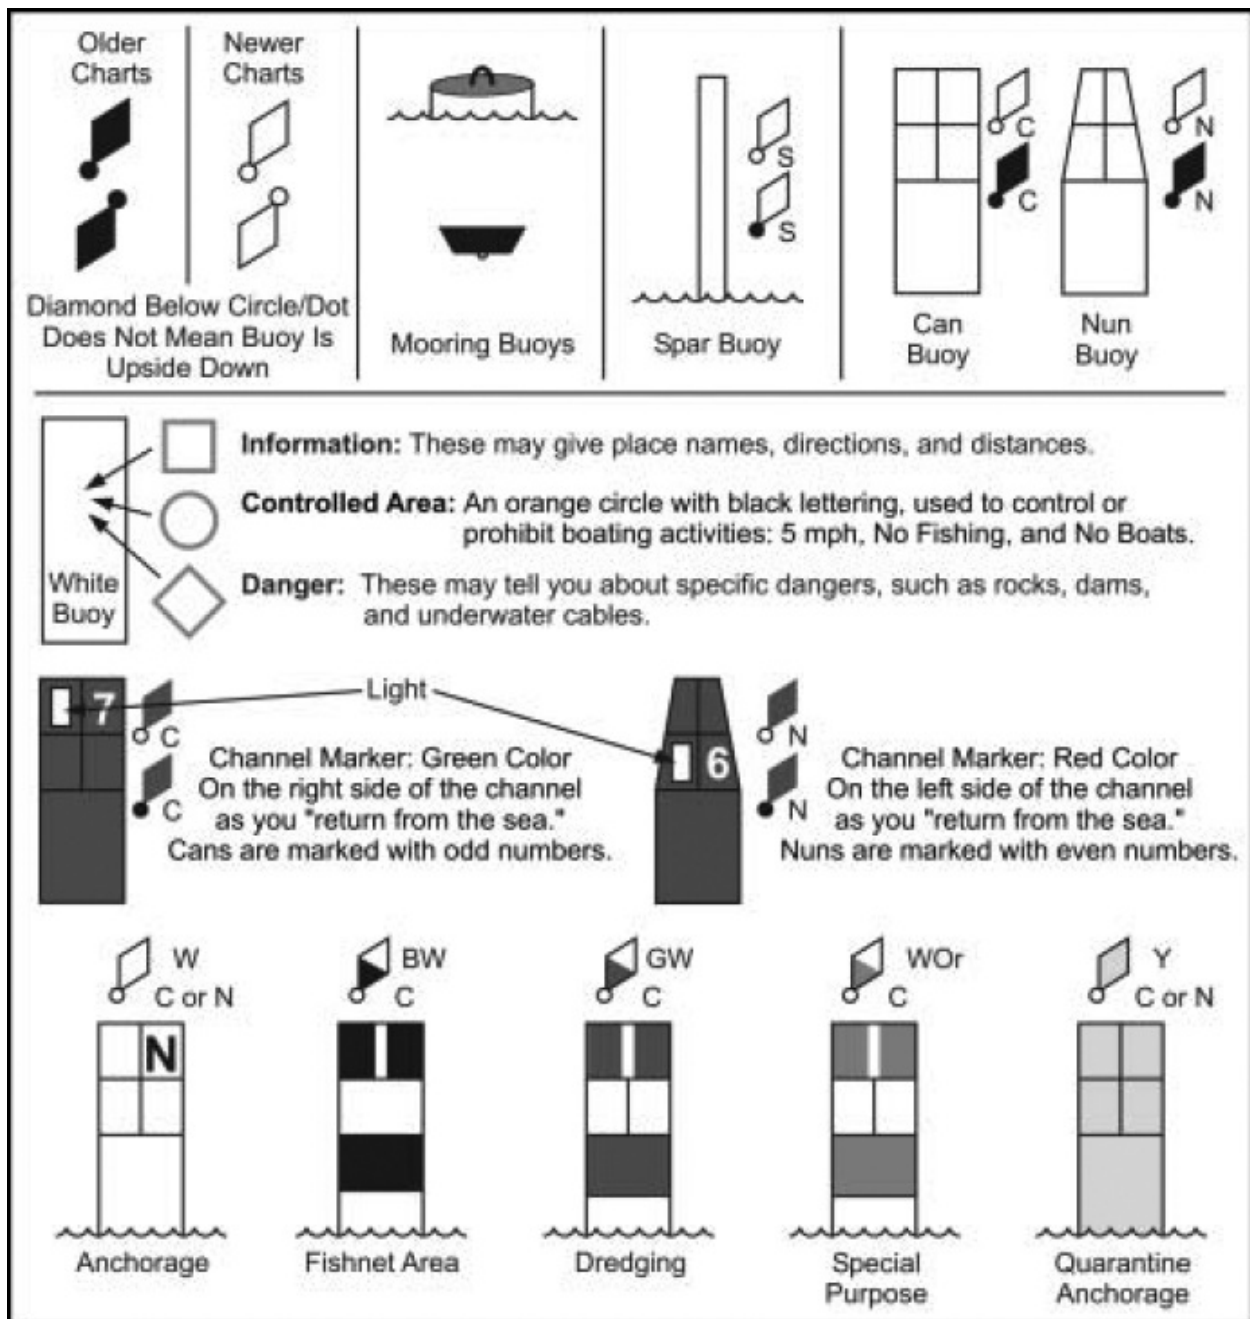
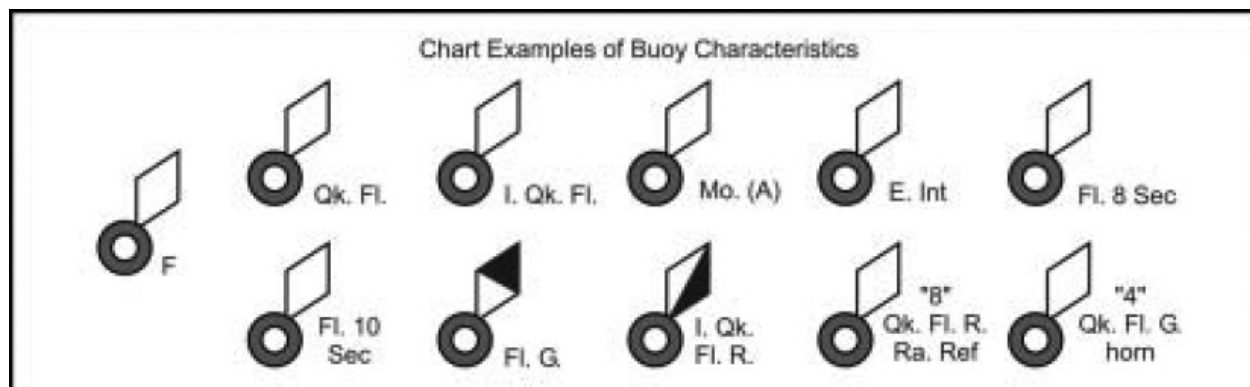

Figure 4-15. Buoys
Figure 4-16. Light characteristics
4-81. Nautical charts will show the buoy type by the initials of its shape. For example, nun buoys (N) and can buoys (C) (Figure 4-15). A mooring (anchor) buoy is the only one that is not indicated by the diamond and circle or dot. This symbol is a trapezoid (a figure having two parallel and two nonparallel sides) and a circle.
color patterns used on buoys (Chart No. 1). These buoys have no lateral significance; that is they do not mark port or starboard. Although the buoys may not be numbered, they may be lettered (Figure 4-15).
4-84. If a buoy is lighted, a magenta (nautical purple) disc will be overprinted on the circle. The characteristic of the light and its color will be indicated on the chart. Buoy lights can be either red, green, or white. The letters R or G are used for red and green lights. The absence of a letter indicates a white light (Figure 4-15). The light phase characteristics and the meanings of abbreviations used to describe them are detailed in Chart No. 1 as shown in Figure 4-16. Each color is used as follows: